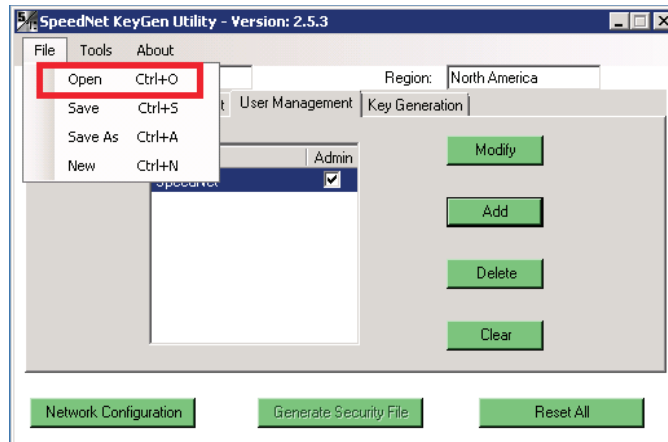

Figure 32. SpeedNet KeyGen Utility window to open a SAD.
STEP 27. Open the **File** menu in the upper-left corner of the **SpeedNet KeyGen Utility** window. Scroll down and select **Open**. See Figure 32.